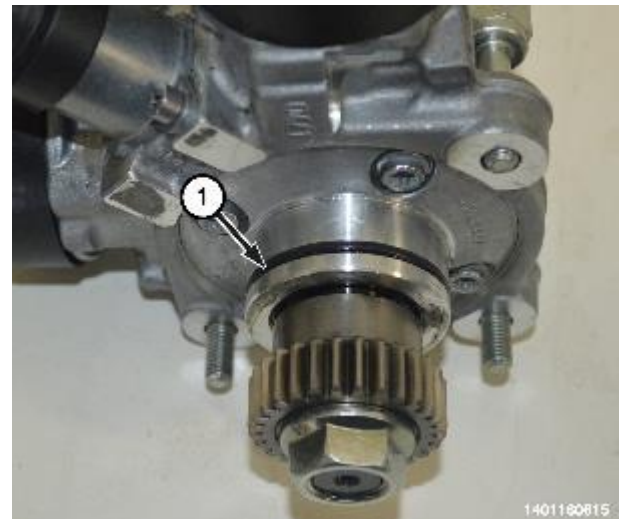

Figure 173 – HPFP O-ring
42. Install a **NEW** O-ring seal (1) to the high-pressure fuel injection pump (Figure 173).